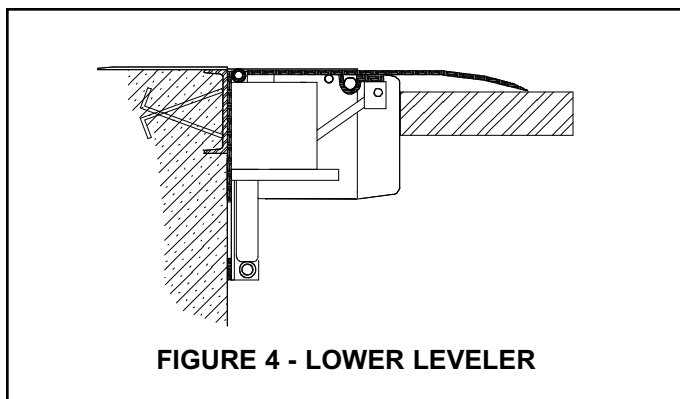

FIGURE 4 - LOWER LEVELER
2. Push and hold the "DOWN" button (leveler will move forward and down) until lip plate settles onto the trailer bed. See figure 4.